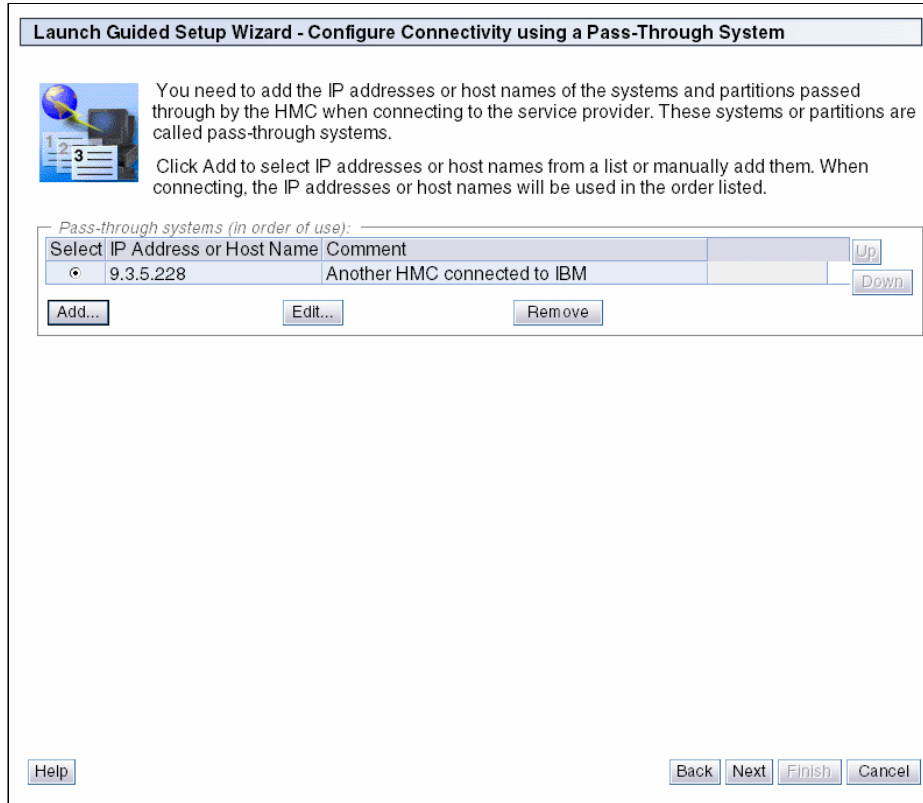

Figure 3-48 Launch Guided Setup Wizard - Pass-Through System
40. Enter the IP address or host name of your pass-through system. Type some comment text and click **Add** to accept the values entered. You can add multiple pass-through systems here. The order listed is the order in which the pass-through systems are used. The Launch Guided Setup Wizard - Pass-through System window displays (see Figure 3-48). It shows the list of the pass through systems.